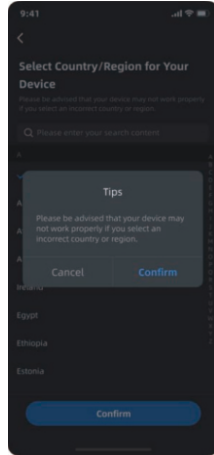

Figure 3
3)Figure 3: Prompt "Select Country/Region for Your Device", click "Confirm" to enter the registration page.